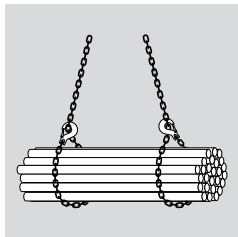

Fig. 5.1.4: Single laced clockwise and anticlockwise
- Lace clockwise and anticlockwise if the load should not roll away during the first lift (see Fig. 5.1.4 and 5.1.5)